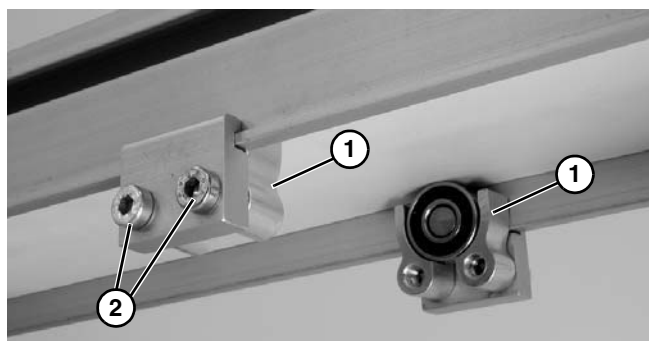

Figure 10
3. Install roller assemblies (Figure 10, item 1) as shown. Tighten screws (Figure 10, item 2) to 60 in-lb (7 Nm).